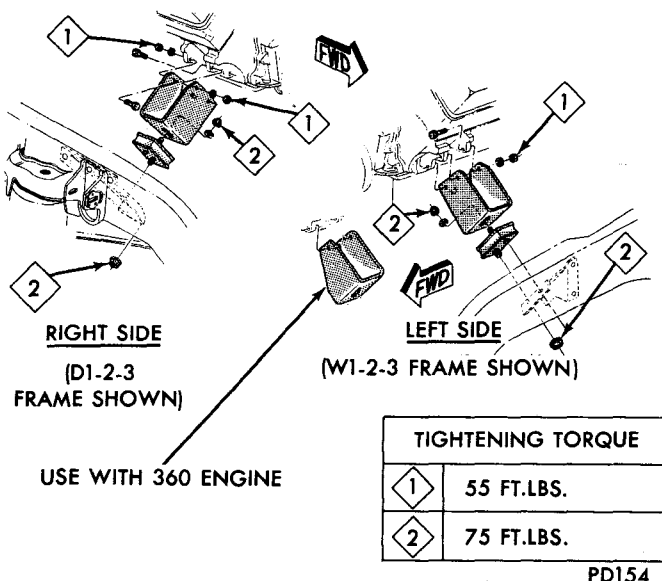
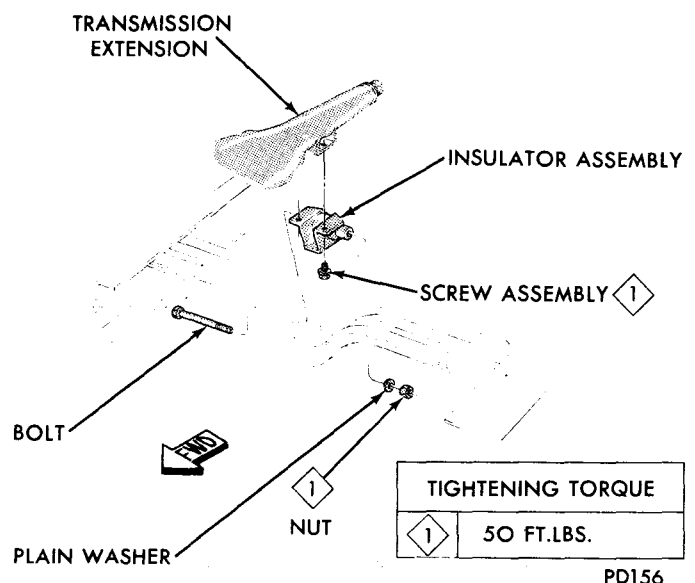

Fig. 1—Engine Mounts—Front—318-360 Cubic Inch Engine Models D100-200-300 and W100-200-300
Fig. 2—Engine Mount—Rear—Models D100-200-300 and W100-200-300
(1) Install engine lifting fixture to carburetor flange studs on intake manifold.
(2) Attach a chain hoist or hydro-crane to fixture eyebolt.
(3) Remove engine from repair stand and lower engine carefully until engine is positioned in chassis with front motor mount studs in place (Fig. 1).
(4) Install engine support fixture Tool C-3487A (if removed from chassis) to support rear of engine. Remove hydro-crane.
(5) Raise vehicle on hoist.
(6) Install transmission and engine rear support cross-member. Remove engine support fixture Tool C-3487A. (Fig. 2).
(7) Connect propeller shaft, wires, linkage, cables, exhaust pipes to manifolds, (oil cooler lines and transmission filler tube is so equipped.)
(8) Lower vehicle, install compressor if equipped with air conditioning.
(9) Install radiator, fan shroud, hoses and oil cooler lines.
(10) Install rotor, distributor cap and spark plug wires. Connect electrical connections at ignition coil, alternator, temperature and oil pressure sending units (oil gauge line if so equipped) starter relay-to-solenoid and engine to body ground.
(11) Remove engine lifting fixture from cylinder head. Uncap flexible fuel line and install to fuel pump.
(12) Install battery, close all drain cocks and fill cooling system.
(13) Fill engine crankcase and transmission as necessary. Refer to "Lubrication" Group 0, for quantities and lubricants. Inspect the entire system for leaks and correct as necessary.